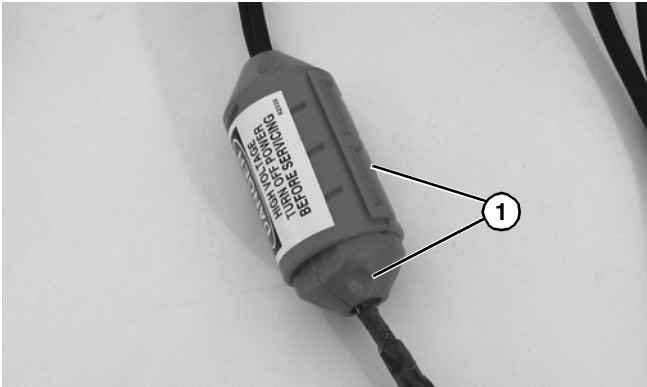

Figure 16
1. Twist covers (**Figure 16, item 1**) apart.